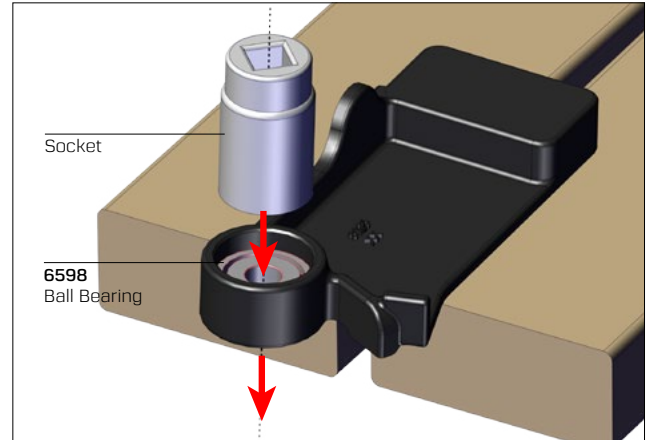

Fig. 6.
- D. Support counterweight as shown in Fig. 6. Use a socket or similar tool with an outside diameter slightly less than 1.25" (30 mm) and remove **#6598** ball bearing by tapping on socket with ball-peen hammer.